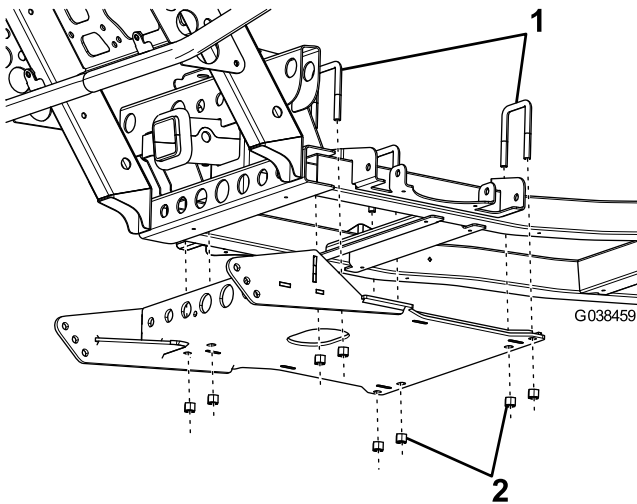

Figure 2
5. Using 4 large U-bolts and 8 locknuts (3/8 inch), loosely attach the undercarriage skid plate to the vehicle frame (Figure 2).